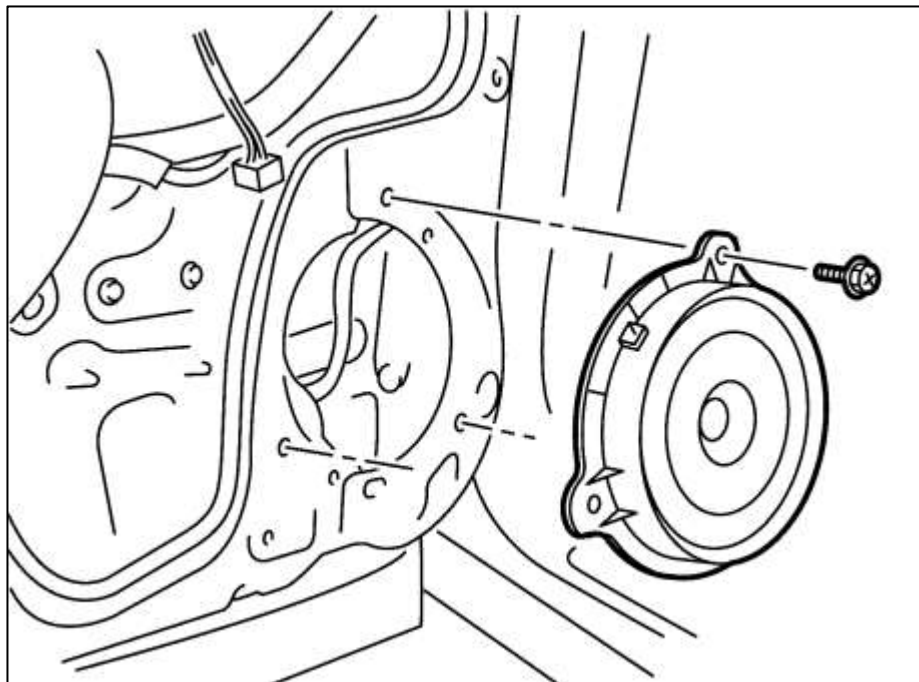

Figure 71
10. Remove the bolts securing the Door Speaker to the Door and remove the Speaker from the Door. *Figure 71.*